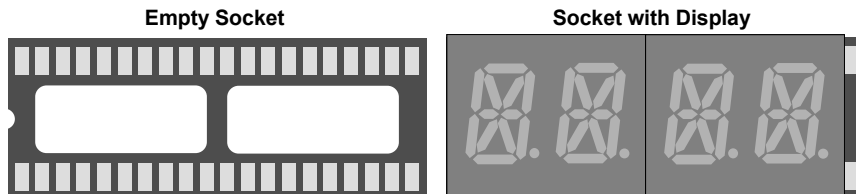

Figure 3: Display Component Orientation
3. Insert the Display components into the sockets in the back of the circuit board with the orientation shown in **Figure 3**. The leftmost component pins must be in the leftmost socket holes.